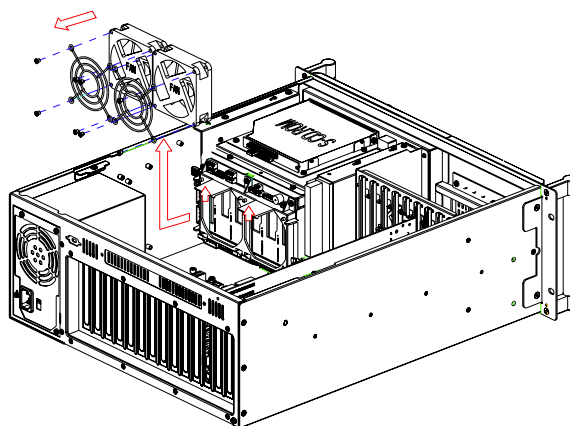

Figure 3.6: Replacing the fan behind the SATA HDD backplane
3. Unplug the fan power connector on the SATA HDD backplane. (see Figure 3.6)